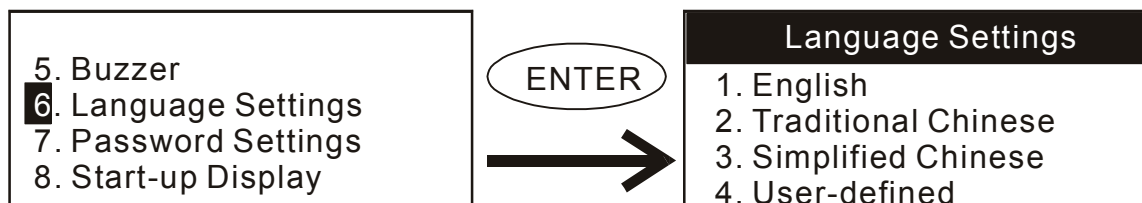

Figure 1-38
Step 6. Then, in the system main menu of TP04G, choose “6.Language Settings” > “4.User-defined” to complete the settings and the user-defined language is set (Figure 1-38).